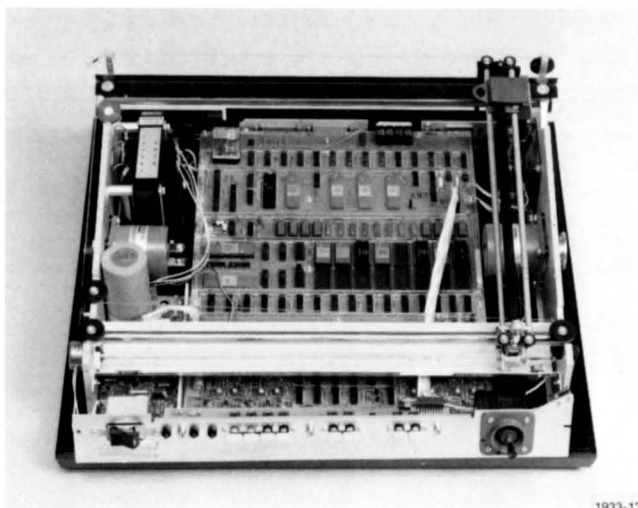

Figure 3-1. Plotter Ready for Cable Stringing.
2. **Remove** the front switch panel that is held by two screws (one at each end of the panel). The plotter should appear as in Figure 3-1.